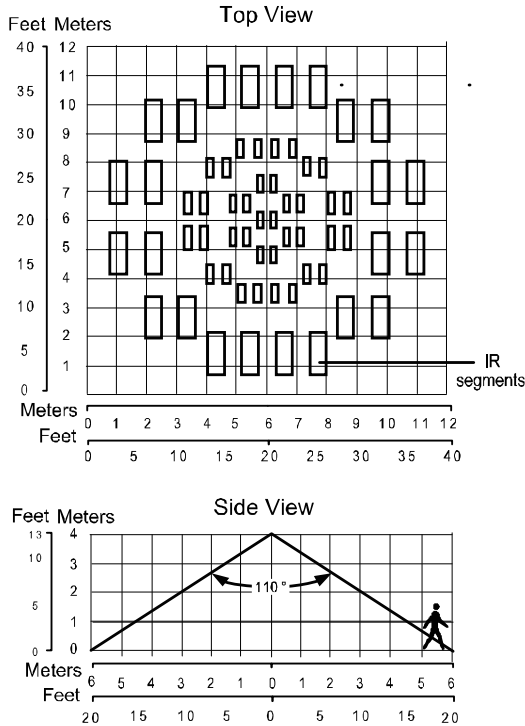

Figure 5: Top and Side View
For the best PIR detection of the WL LuNAR FireWatch, it is recommended to locate the LuNAR FireWatch directly above the center of the protected area. The lens in the PIR provides detection sectors (beams) arranged in three all-round optical levels; external (12 sectors), middle (12 sectors) and internal (7 sectors). This arrangement assures the best coverage of the monitored area (*see Figure 5*).
- For optimum detection, select a location likely to intercept an intruder moving through the coverage pattern (*see Figure 5*). Two minutes after applying power (warm-up period), walk test the detector over the entire protected area to verify proper operation of the unit.